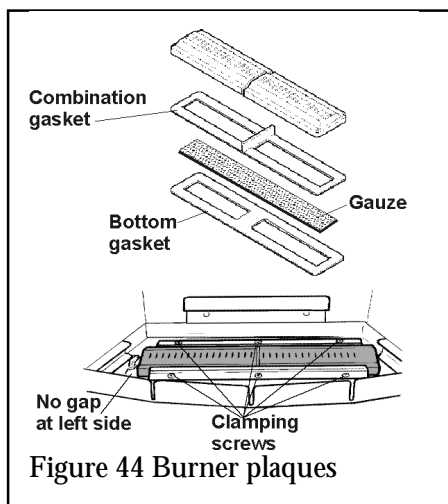

Figure 44 Burner plaques
15.1 To Replace Burner Plaques (See Figure 44)